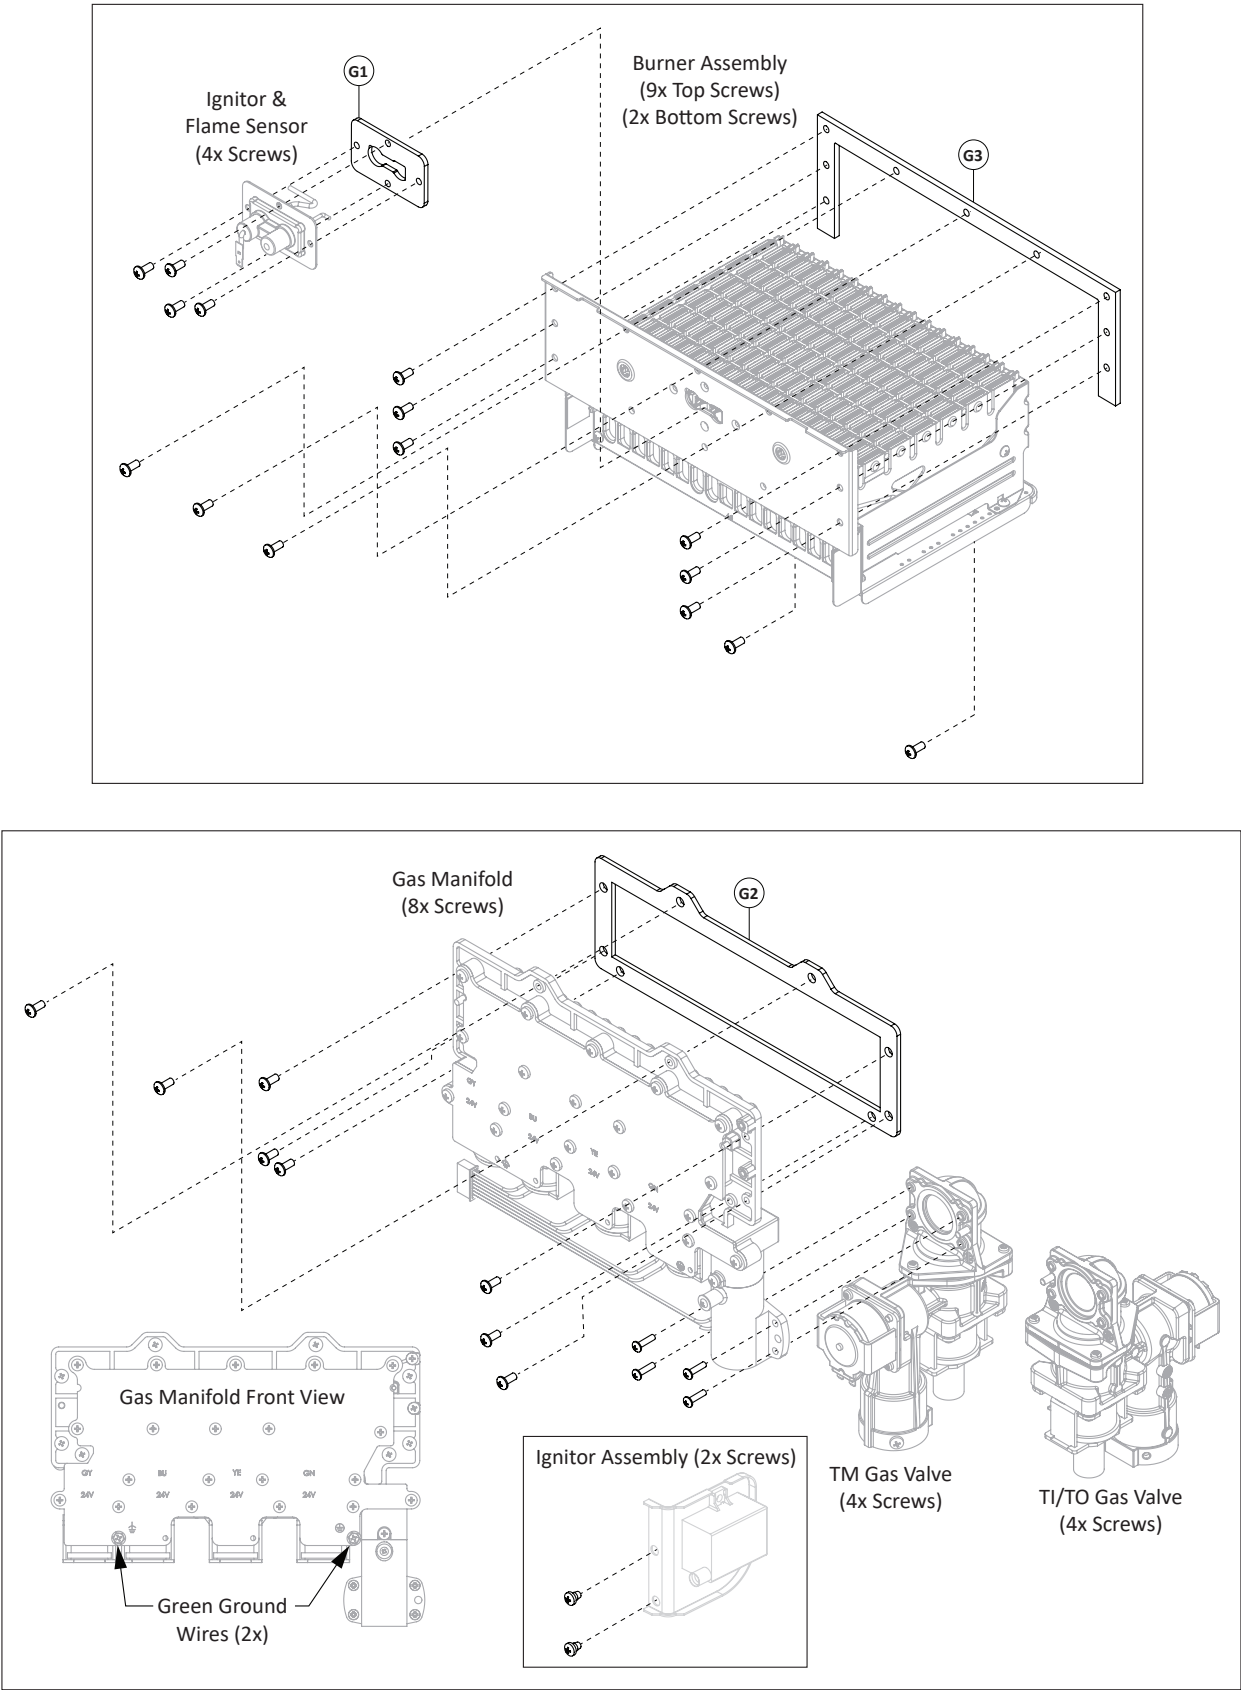

Figure 212 - Gasket reference guide
**NOTICE:** Use the diagrams (Figure 212) on page 111 to reference the location of gaskets provided in the kit.